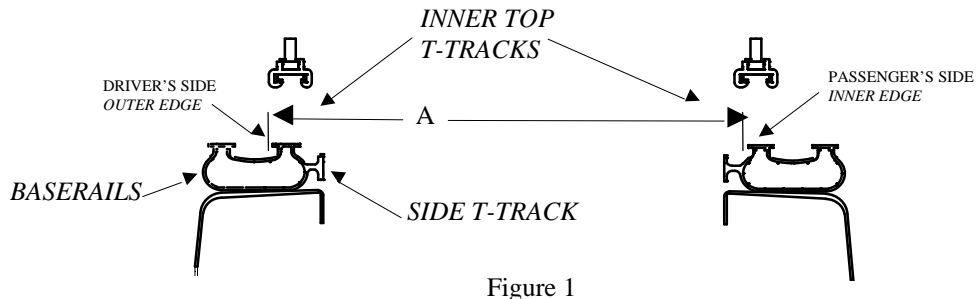

Figure 1
- 3) Your goal is to position the Mount Kit beneath your toolbox in the correct location, so the box can be mounted to the Base Rails. Start by measuring the width between the Base Rail inner T-Tracks. (See Fig 1) Hook the tape measure on the outer edge of the driver's side inner T-Track and measure to the innermost edge of the passenger side T-Track (this is Measurement A: **mark it down below**).